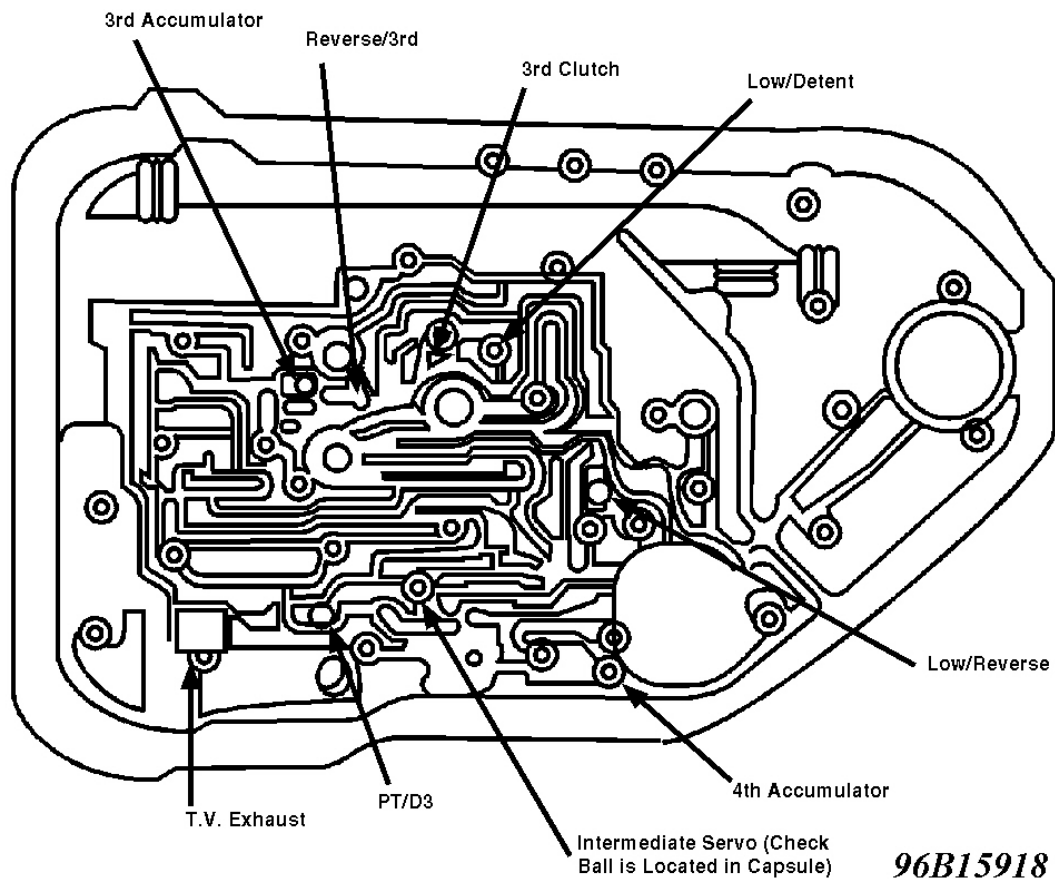

Fig. 41: Location of Check Balls in Bottom of Case
5. Install 9 check balls into locations in case. See **Fig. 41** . Install 2 valve body alignment pins into opposing bolt holes. Install spacer plate-to-case gasket (marked "C") on case. Install spacer plate.